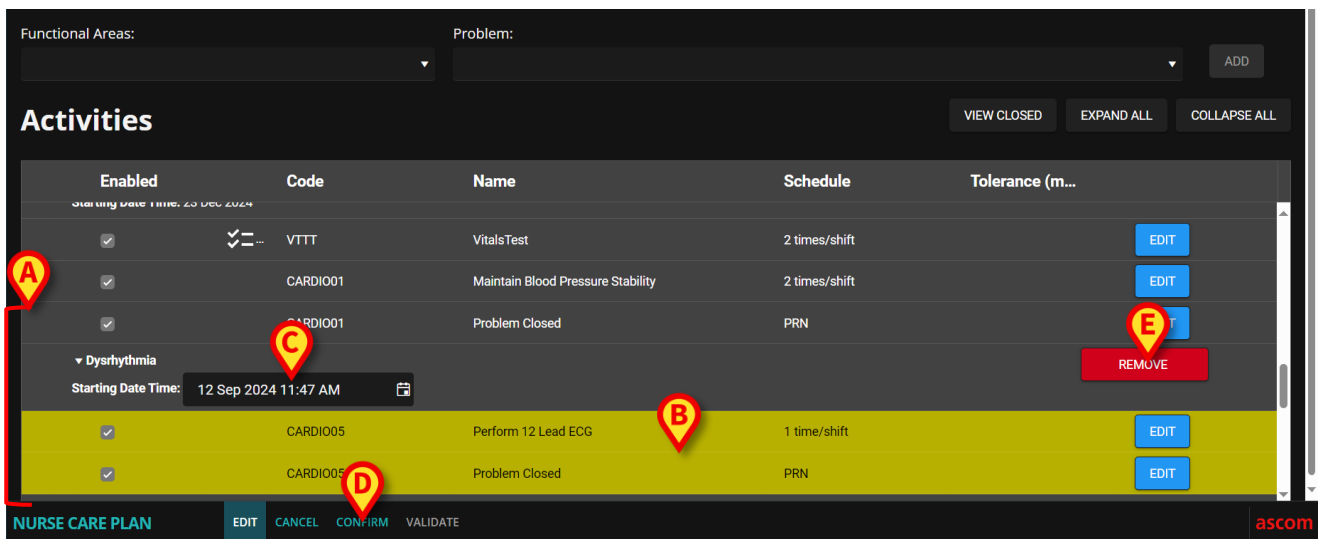

Fig 10
The activities list changes in the following way (Fig 10):
The new problem is added to the list (Fig 10 A). The corresponding activities are displayed in yellow, meaning that they are not confirmed yet (Fig 10 B).
The current day/time is selected by default as the starting date/time of the problem (Fig 10 C). It can be edited. To edit the date/time, either type the new value in the field or click the  icon to select the value on a selection tool. The date/time can be set in the past (in case the user is documenting something that occurred significantly before it was possible to use NCP) or in the future (in case it is necessary to prepare the plan in advance). The selectable time limits are within the existing plan, i.e.: the plan creation time is the limit in the past and the plan validity duration is the limit in the future.
The **Remove** button (Fig 10 E) allows to remove the specific problem, and only that one. If editing a plan and inserting multiple problems within the same procedure, this button makes it possible to remove single problems without canceling the whole procedure. The button, for example, is present alongside each single problem when selecting a standard plan (see section 2.2). After plan confirmation (see below), the **Remove** button is not available anymore.
- Click **Confirm** to confirm the changes made (Fig 10 D).